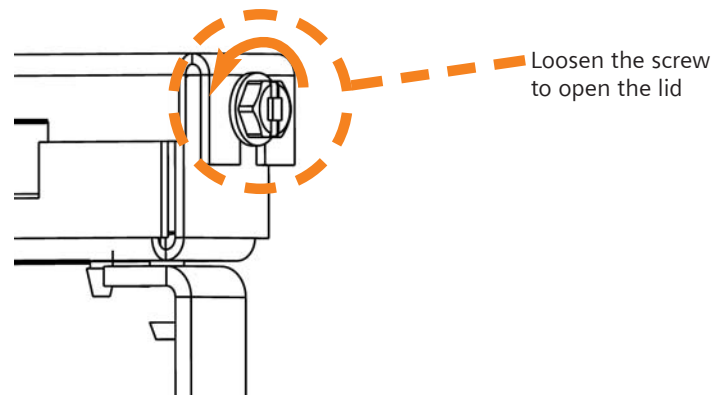

Figure 6.14
6. Loosen the screw (2 total) that secures the data rail lid as shown in figure 6.14 to open the lid for CPOD and ribbon cable connections.
3. Loosen the screw (2 total) that secures the data rail lid as shown in figure 6.14 to open the lid for CPOD and ribbon cable connections access.